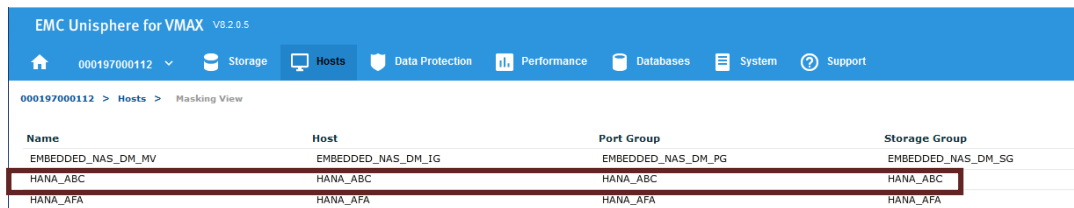

Figure 17. Masking View
3. Click **OK**. The Masking View is created, as shown in Figure 17.